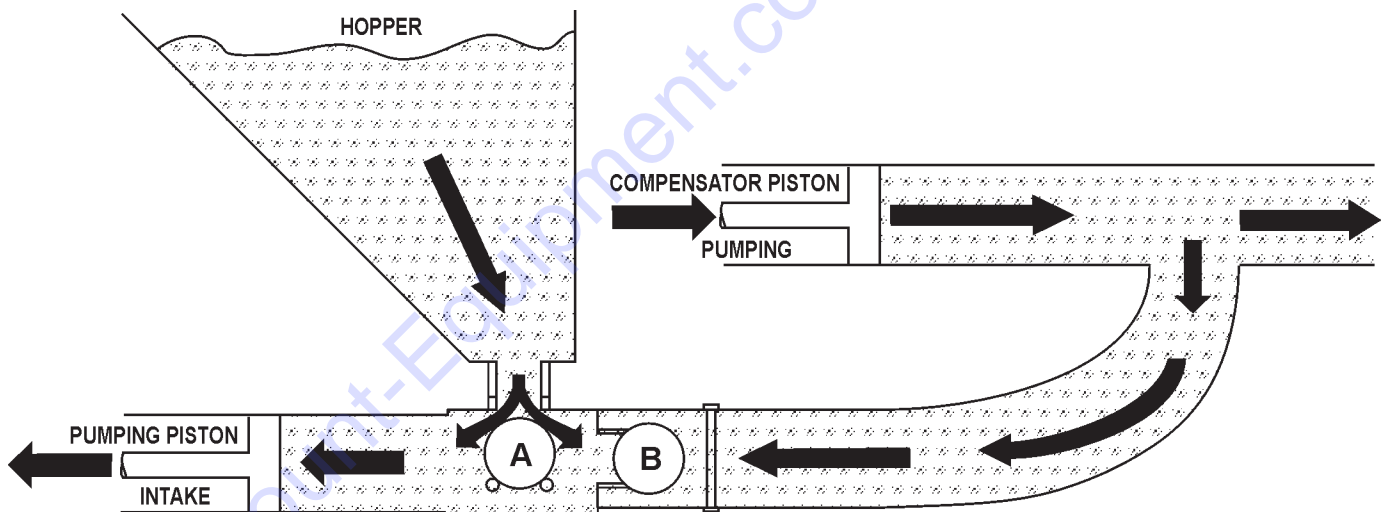

Figure 7. Pumping Cylinder
The pumping cylinder (Figure 7) retracts drawing the material past the ball (A) and filling the cylinder. The compensator piston is pumping the material out to the nozzle and causing ball (B) to seat preventing the material from returning to the pumping cylinder intake.